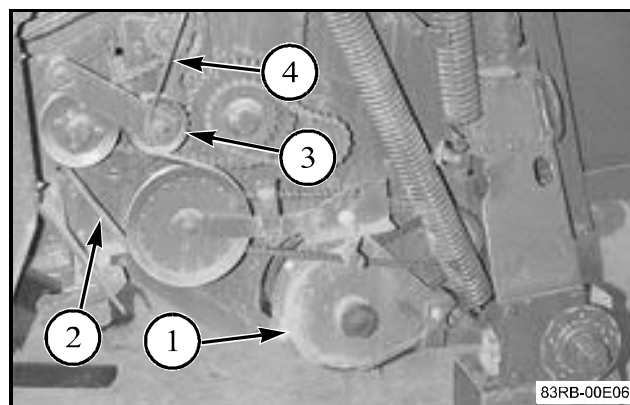

FIG. 8
FIG. 8: The pickup (1) is belt driven and has three tine bars, each bar having tines for clean crop pickup. See the Specifications section for the number of tines. The tines extend when entering the windrow. The tines retract from the crop as the crop is fed into the throat of the bale chamber. Operate the pickup just high enough so the tines will clear the ground. The pickup drive belt (2) has a spring loaded tensioner (3) to hold proper belt tension.